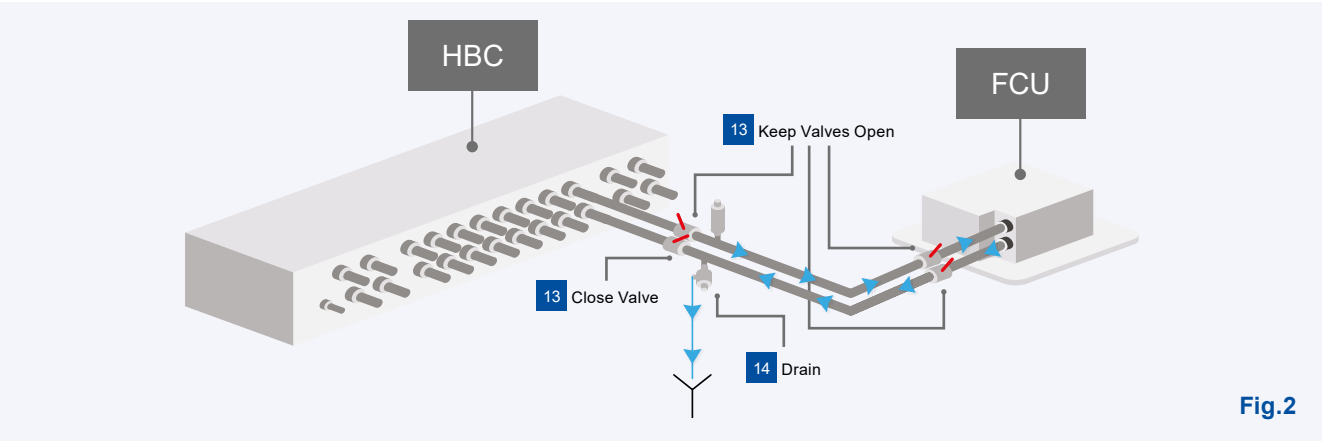

Fig.2
13. Close the Isolation valve on the flow side (bottom pipe, refer to Fig.2, next page) at the HBC keeping the isolation valve on the return side (top pipe, refer to Fig.2) at the HBC and the isolation valves at the indoor unit open.
14. Attach a hose to the drain point installed at the HBC on the flow side (bottom pipe, Fig.2). Open drain and run water for 10 minutes or until such time as the air pockets and construction debris have been removed for these pipe runs.